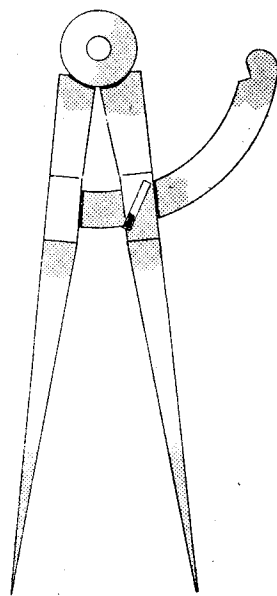

Fig. 1. Dividers are used for cutting thin sheet material
**A**LTHOUGH it is easy enough to cut a hole of moderate size in a metal bar by using a twist drill mounted in the drilling machine, some difficulty may be found in forming a large hole neatly in thin sheet metal or in leather or plastics. Moreover, when making washers of jointing material, the two forming cuts should be concentric in order to afford the greatest strength, as well as to give a neat appearance. Sheet celluloid and thin sheets of plastic material can be cut quite easily with a pair of sharp-pointed dividers, and, for cutting large circles, dividers of the kind illustrated in Fig. 1 will